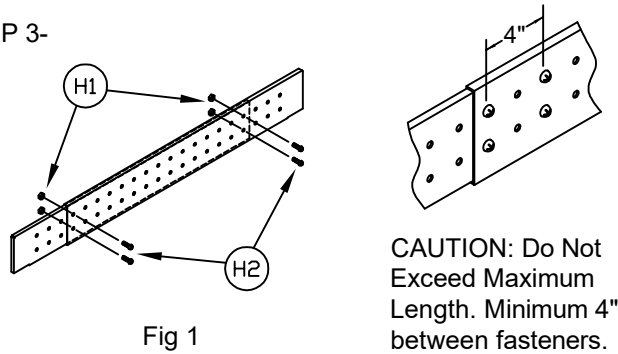

Fig 1
3. Attach sections together by using (4) 1/4-20x1/2" Screws (H2) and (4) 1/2-20 Keps Nuts (H1). Position screws at outer-most holes on each channel section. See Fig 1.